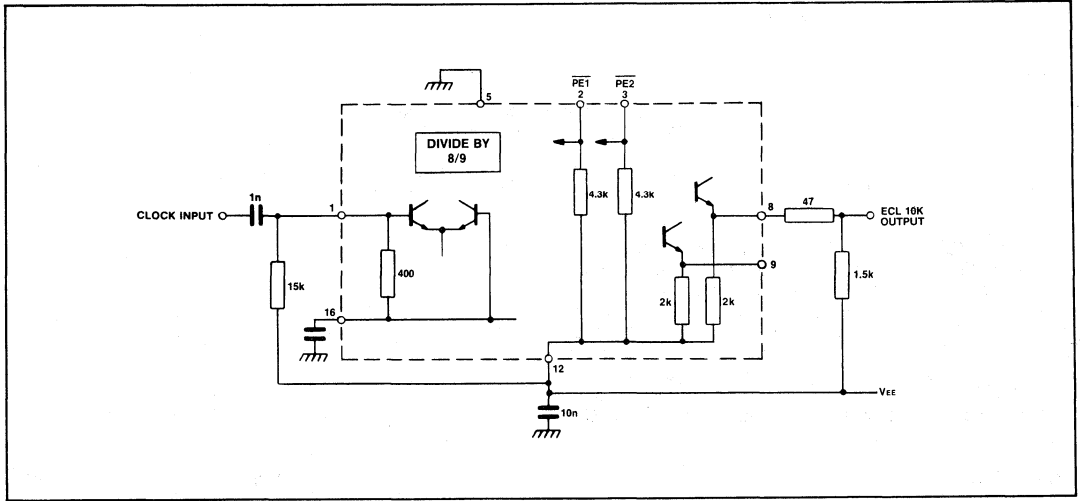

Fig.7 Typical applications circuit showing interfacing
4. The Q and  $\bar{Q}$  outputs are compatible with ECL II but can be interfaced to ECL 10K as shown in Fig. 7. There is an internal circuit equivalent to a load of 2k pull-down resistor at each output.